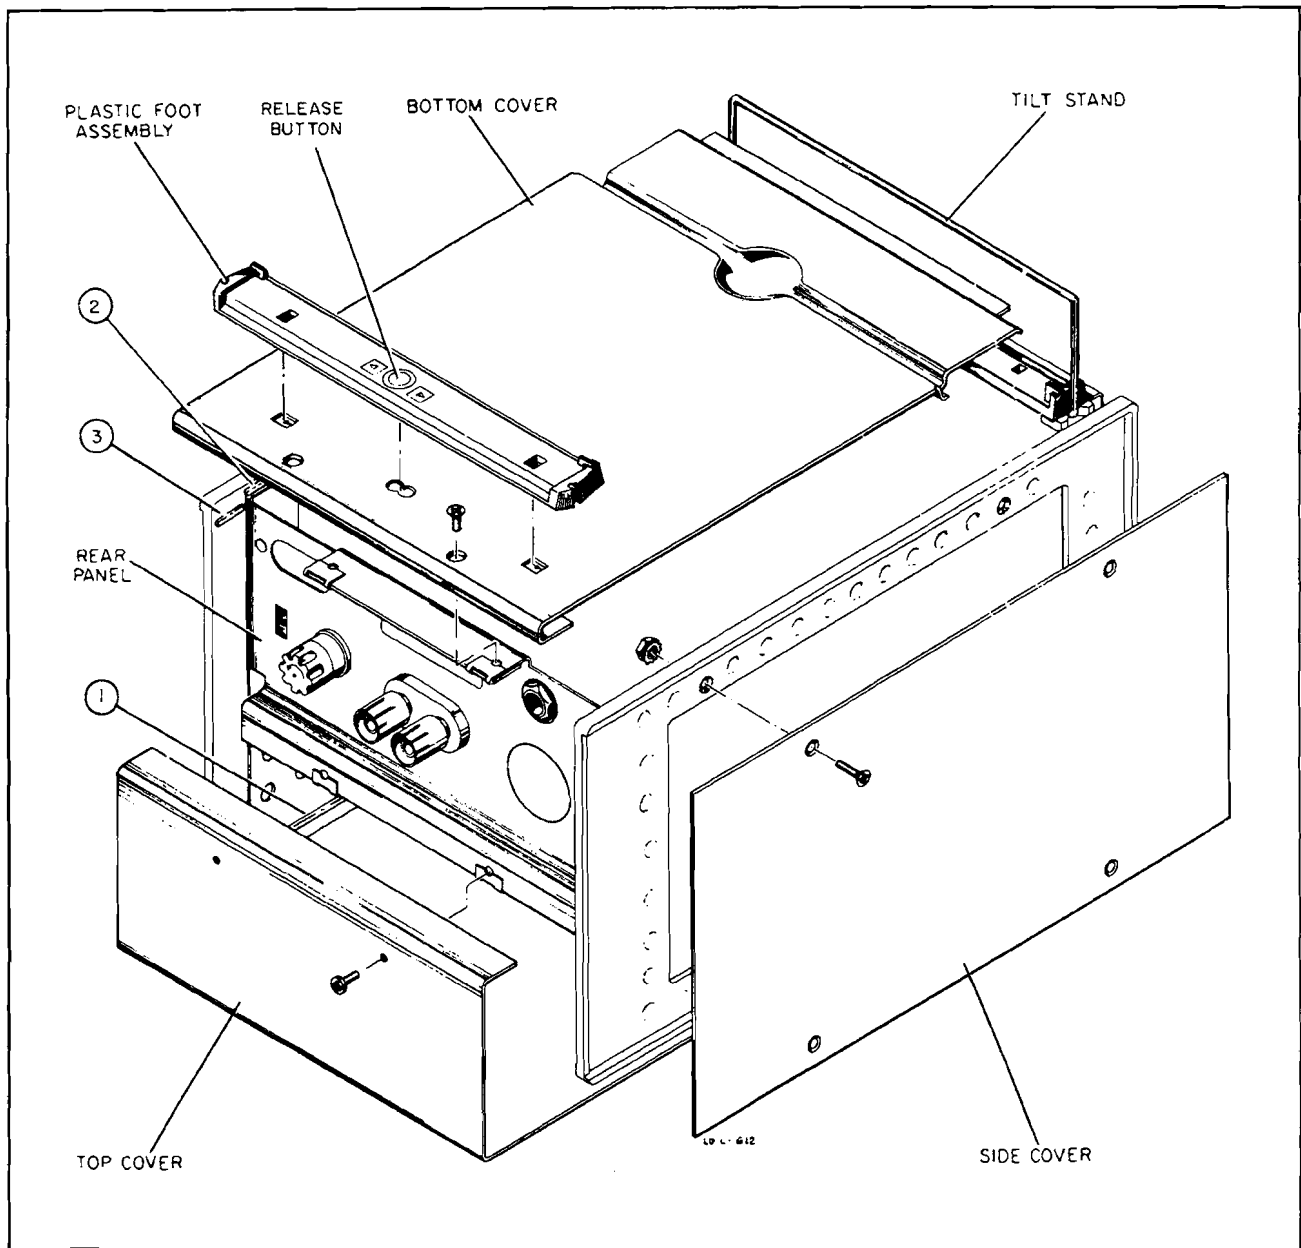

Figure 5-1. Cover Removal
5-5. Refer to figure 5-1 when removing instrument covers. Removal of the top cover exposes the circuit areas shown in figure 5-2. Routine checks and adjustments can be performed without the removal of other covers. However, operations such as soldering on
a. Rest the cover flat on the cast guides projecting inward near the top of each side frame (see ①, figure 5-1).
- Set the tilt stand as shown in figure 5-1.
- Rest the bottom cover flat on the cast guides projecting inward near the bottom of each side frame (see ②, figure 5-1).
- Slide the cover forward on the guides so that the formed portion at the rear of the cover slides over the two short projections at the rear corner of each side frame (see ③, figure 5-1).